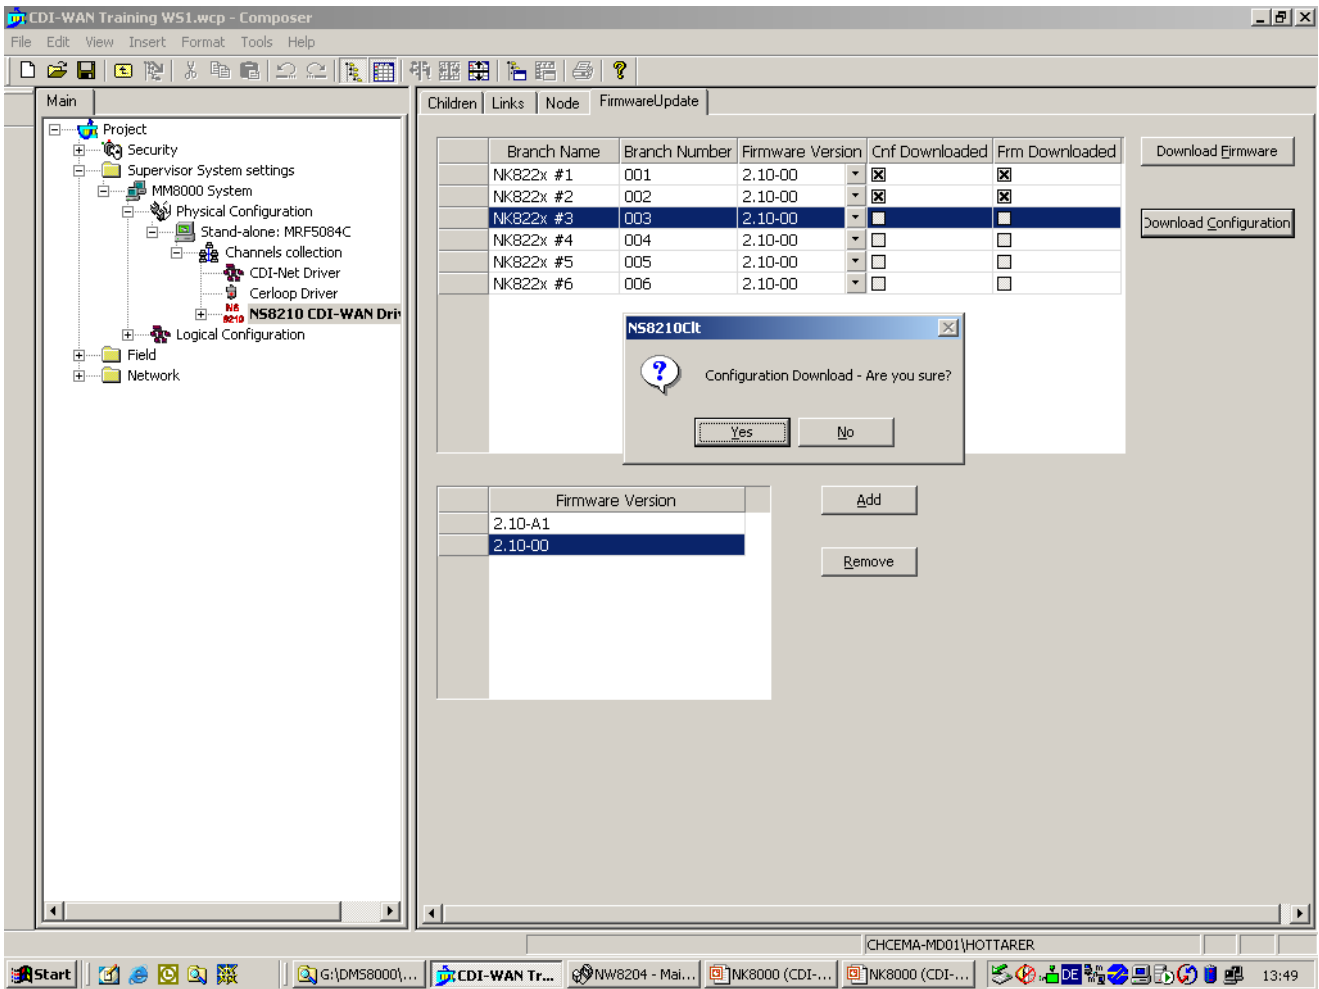

Fig 3. CDI-WAN Firmware Update tab in Composer
- In the list of NK822x units, select the one you wish to download and click on the button “Download configuration” (Fig 3).